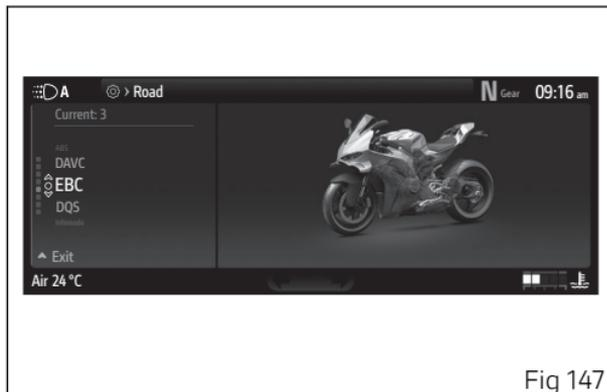

Fig 147
- Select the “EBC” item (Fig 147) and press ○.